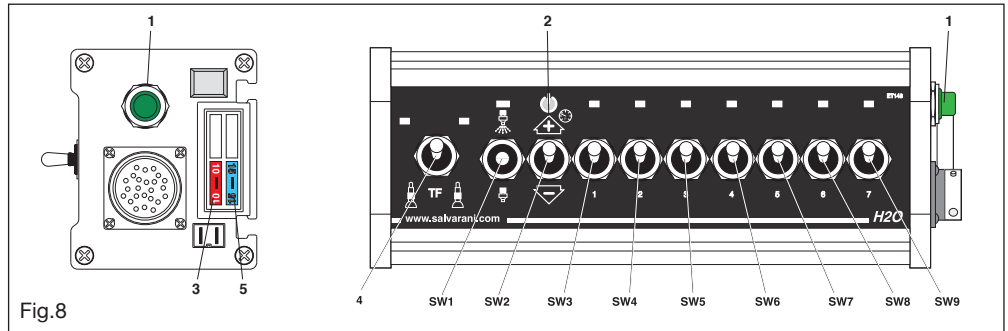

Fig.8
- Pos.4 fig.8\_foam marker control switch: lever in the middle - the marker is off; lever on the left, (corresponding red led on) foam outlet on the left side; lever on the right, (corresponding red led on) foam outlet on the right side.